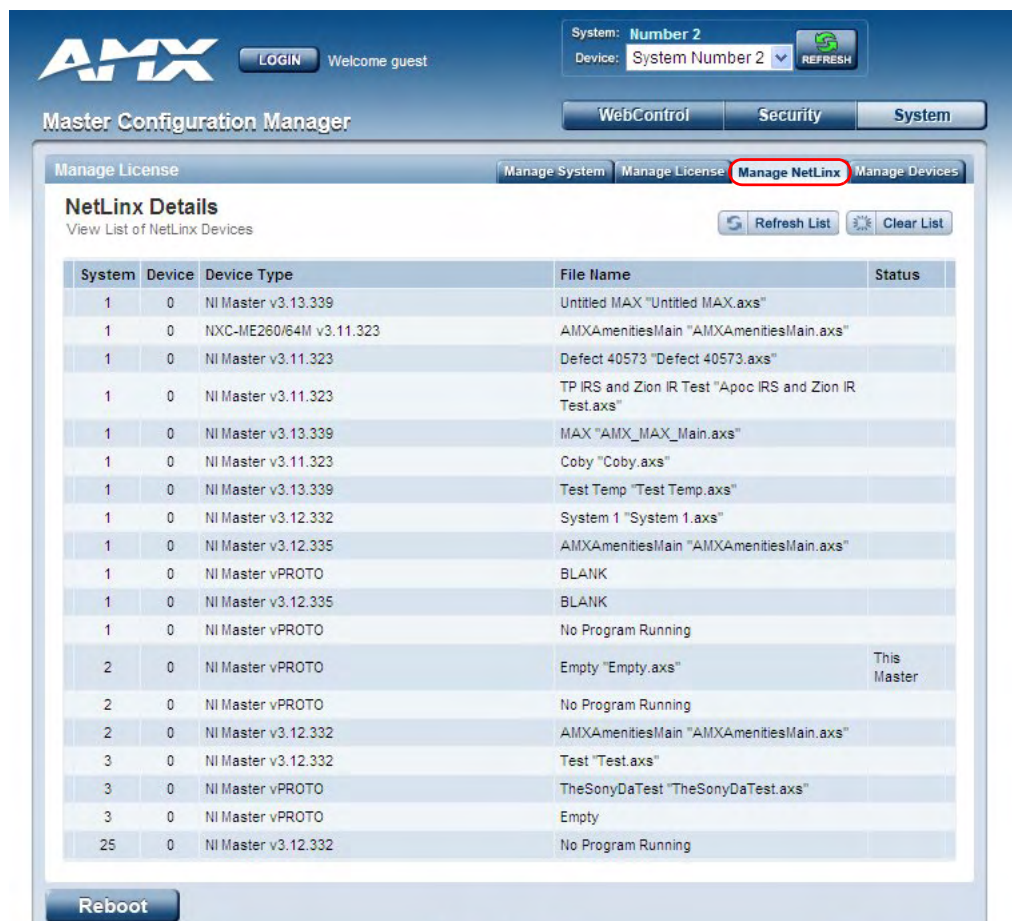

FIG. 52 System - Manage NetLink tab
5. Open the **Manage NetLink** tab. This tab displays a list of NetLink devices connected to the Master, and indicates device status for each (FIG. 52).